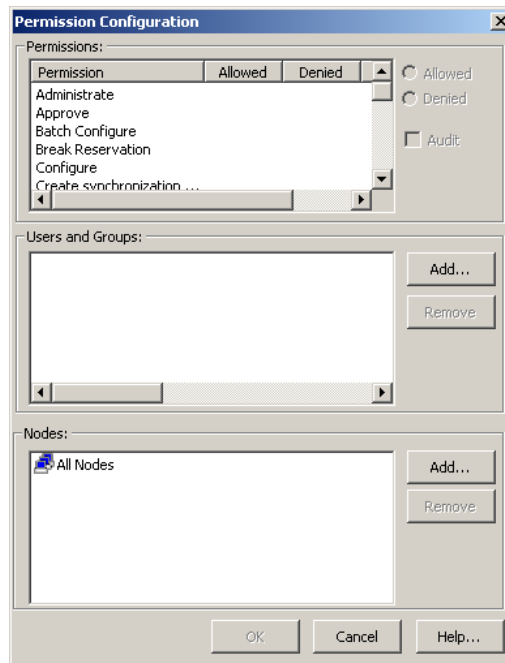

Figure 16. Permission Configuration Dialog Box
3. A new dialog window opens, see Figure 16.